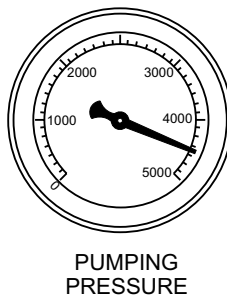

Figure 61. Pumping Pressure Gauge
3. The *pumping pressure gauge* (Figure 61) should read approximately 4,100 ~ 4,200 psi.